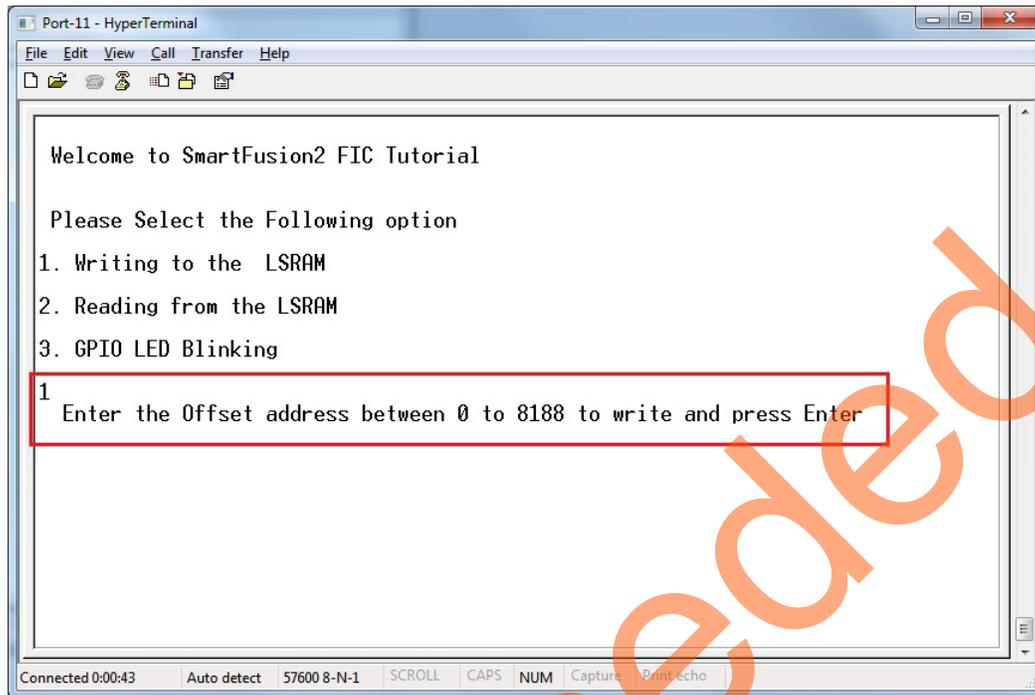

Figure 45 • Writing to LSRAM
9. Select **Writing to LSRAM**, It prompts for “Enter the offset address between 0 to 8188 to write and press Enter” as shown in Figure 45.